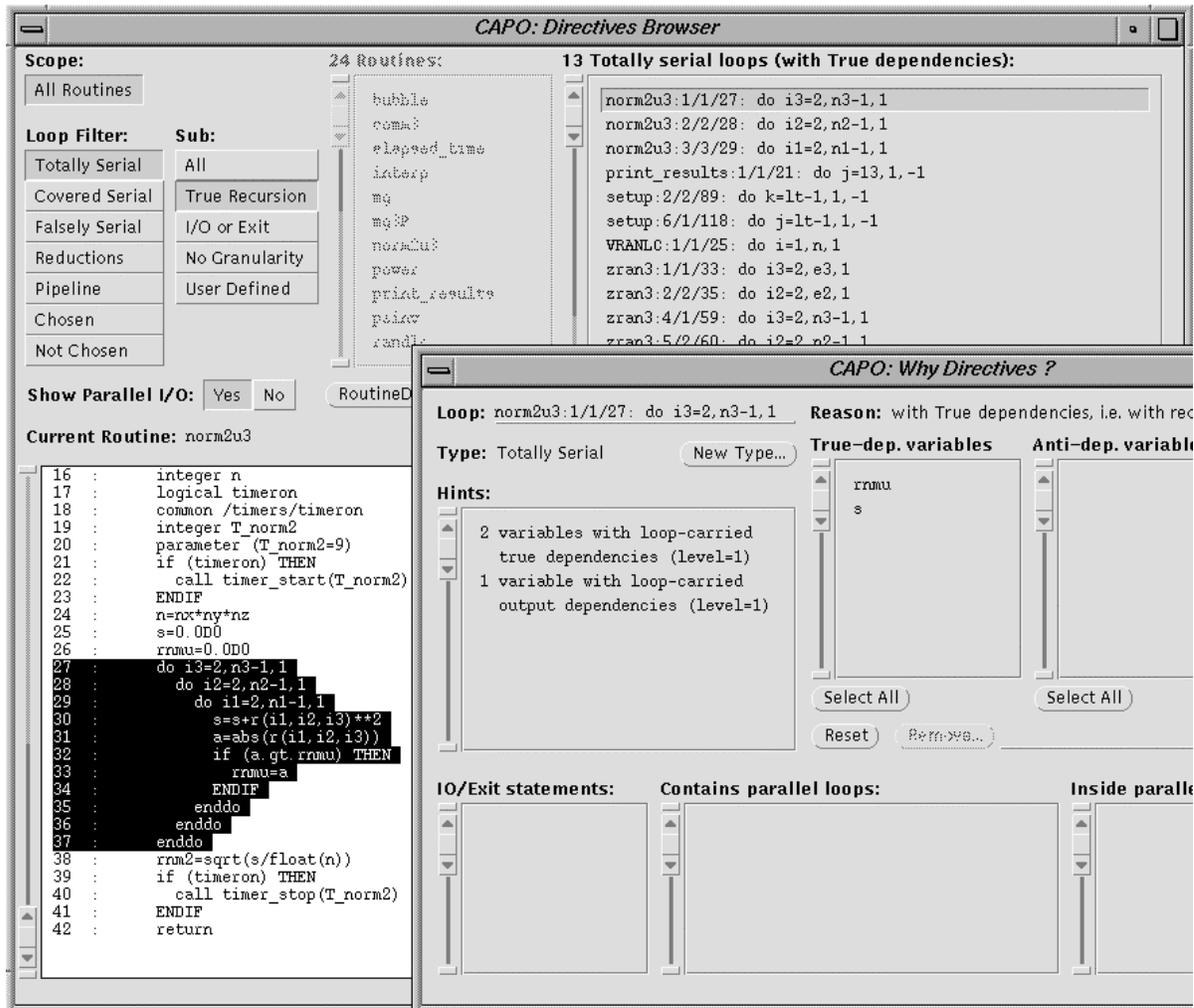

Figure T3-1: The window shows a serial loop in norm2u3, MG.
- 3. Browse directives.** In the **View** menu, click *Directives* to perform the directives analysis. The Directives browser will be popped up shortly. Choose scope `All Routines` and loop filter `Totally Serial` and sub-filter `True Recursion`. Select loop: `norm2u3:1/1/27: do i3=2,n3-1` and click the `Why` button. Figure T3-1 is what you will see afterwards. The loop nest (and two others inside) contains an `IF` statement which prevents the loop being recognized as a reduction loop over variable `rnmu`.¹ In order to be a valid reduction statement for OpenMP, the code needs to be modified (see Step 5). Without any change, this piece of code will be run in sequential.
Further improvement to the code can be made by parallelizing the loop in routine norm2u3 (the highlighted area in Figure T3-1). The operations inside the loop nest can be expressed as reductions with slight code modification. There are two ways to achieve the goal: modifying the serial code and re-performing the dependence analysis (Steps 5-7) or user enforcing loop type in the tool without re-analysis (Steps 8-9).